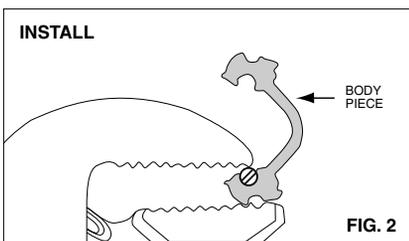

FIG. 2
2. Place each conductor into the grooves in BODY piece. Press conductors with pliers to align and seat into grooves. (see fig. 2)